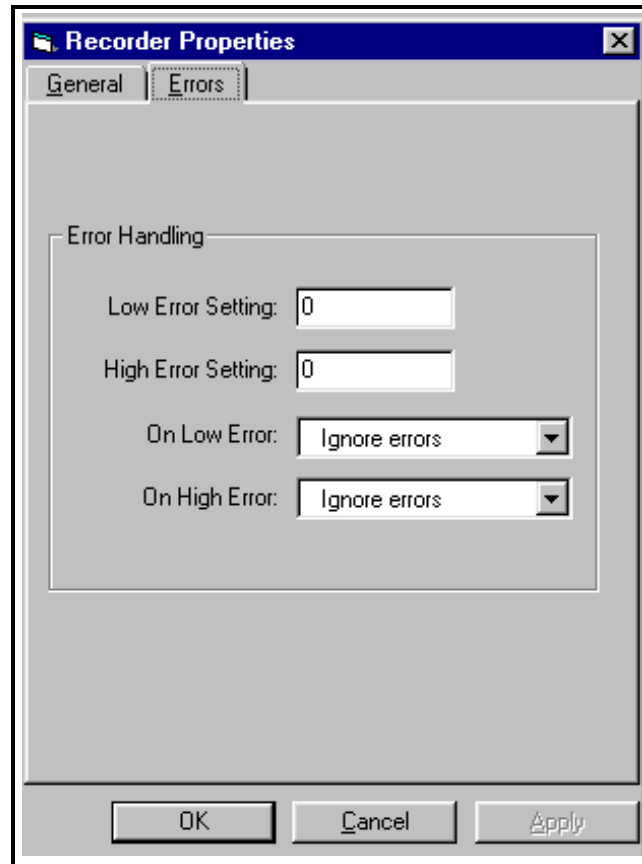

Figure 16: Error Handling in the Recorder Properties Window
1. To program the meter for error handling, click on the “Errors” tab. The screen appears similar to Figure 16 below.